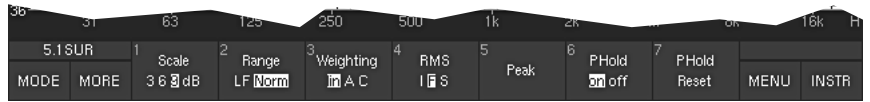

Fig. 5-22: Second Toolbar function layer of the RTA instruments (displayed after selecting MORE) in Surround modes
(Second layer, button/key 1, see Fig. 5-22)
(Second layer, button/key 2, see Fig. 5-22)
(Second layer, button/key 3, see Fig. 5-22)
(Second layer, button/key 4, see Fig. 5-22)
(Second layer, button/key 5, see Fig. 5-22)
(Second layer, button/key 6, see Fig. 5-22)
(Second layer, button/key 7, see Fig. 5-22)